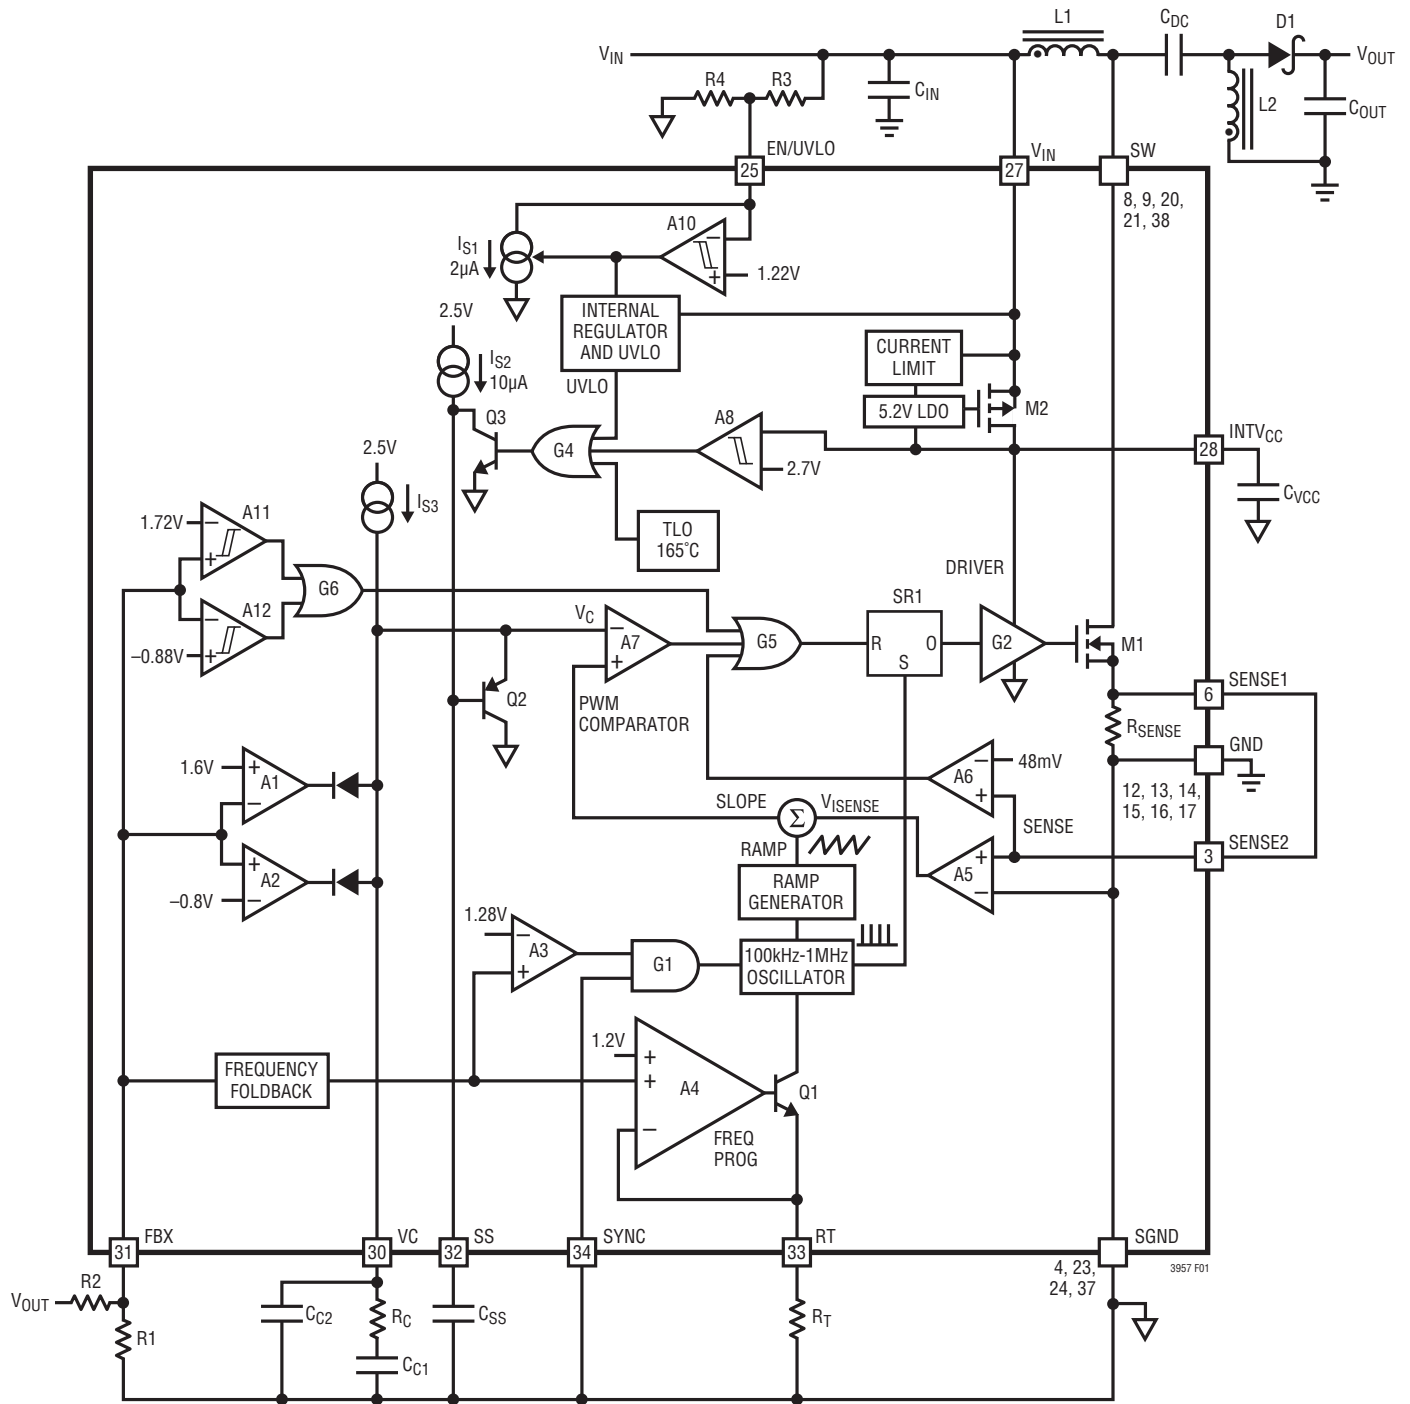

Figure 1. LT3957 Block Diagram Working as a SEPIC Converter
The LT3957 uses a fixed frequency, current mode control scheme to provide excellent line and load regulation. Operation can be best understood by referring to the Block Diagram in Figure 1.
The LT3957 is capable of generating either positive or negative output voltage with a single FBX pin. It can be configured as a boost, flyback or SEPIC converter to generate positive output voltage, or as an inverting converter to generate negative output voltage. When configured as a SEPIC converter, as shown in Figure 1, the FBX pin is pulled up to the internal bias voltage of 1.6V by a voltage divider (R1 and R2) connected from V_{OUT} to SGND. Comparator A2 becomes inactive and comparator A1 performs the inverting amplification from FBX to VC. When the LT3957 is in an inverting configuration, the FBX pin is pulled down to -0.8V by a voltage divider connected from V_{OUT} to SGND. Comparator A1 becomes inactive and comparator A2 performs the noninverting amplification from FBX to VC.
The purpose of this current is to allow the user to program the rising hysteresis. The Block Diagram of the comparator and the external resistors is shown in Figure 1. The typical falling threshold voltage and rising threshold voltage can be calculated by the following equations:
An internal, low dropout (LDO) voltage regulator produces the 5.2V INTV_{CC} supply which powers the gate driver, as shown in Figure 1. The LT3957 contains an undervoltage lockout comparator A8 for the INTV_{CC} supply. The INTV_{CC} undervoltage (UV) threshold is 2.7V (typical), with 0.1V hysteresis, to ensure that the internal MOSFET has sufficient gate drive voltage before turning on. When INTV_{CC} is below the UV threshold, the internal power switch will be turned off and the soft-start operation will be triggered. The logic circuitry within the LT3957 is also powered from the internal INTV_{CC} supply.
If LT3957 operates at a low V_{IN} and high switching frequency, the voltage drop across the drain and the source of the LDO PMOS (M2 in Figure 1) could push INTV_{CC} to be below the UV threshold. To prevent this from happening, the INTV_{CC} pin can be shorted directly to the V_{IN} pin. V_{IN} must not exceed the INTV_{CC} Absolute Maximum Rating (8V). In this condition, the internal LDO will be turned off and the gate driver will be powered directly from V_{IN}. It is recommended that INTV_{CC} pin be shorted to the V_{IN} pin if V_{IN} is lower than 3.5V at 1MHz switching frequency, or V_{IN} is lower than 3.2V at 100kHz switching frequency. With the INTV_{CC} pin shorted to V_{IN}, however, a small current (around 16μA) will load the INTV_{CC} in shutdown mode.
The choice of operating frequency may be determined by on-chip power dissipation (a low switching frequency may be required to ensure IC junction temperature does not exceed 125°C), otherwise it is a trade-off between efficiency and component size. Low frequency operation improves efficiency by reducing gate drive current and MOSFET and diode switching losses. However, lower frequency operation requires a physically larger inductor. Switching frequency also has implications for loop compensation. The LT3957 uses a constant-frequency architecture that can be programmed over a 100kHz to 1000kHz range with a single external resistor from the R_T pin to SGND, as shown in Figure 1. A table for selecting the value of R_T for a given operating frequency is shown in Table 1.
The output voltage V_{OUT} is set by a resistor divider, as shown in Figure 1. The positive and negative V_{OUT} are set by the following equations:
The LT3957 addresses this mechanism with the SS pin. As shown in Figure 1, the SS pin reduces the power MOSFET current by pulling down the VC pin through Q2. In this way the SS allows the output capacitor to charge gradually toward its final value while limiting the start-up peak currents. The typical start-up waveforms are shown in the Typical Performance Characteristics section. The inductor current I_L slewing rate is limited by the soft-start function.
Loop compensation determines the stability and transient performance. The LT3957 uses current mode control to regulate the output which simplifies loop compensation. The optimum values depend on the converter topology, the component values and the operating conditions (including the input voltage, load current, etc.). To compensate the feedback loop of the LT3957, a series resistor-capacitor network is usually connected from the VC pin to SGND. Figure 1 shows the typical VC compensation network. For most applications, the capacitor should be in the range of 470pF to 22nF, and the resistor should be in the range of 5k to 50k. A small capacitor is often connected in parallel with the RC compensation network to attenuate the VC voltage ripple induced from the output voltage ripple through the internal error amplifier. The parallel capacitor usually ranges in value from 10pF to 100pF. A practical approach to design the compensation network is to start with one of the circuits in this data sheet that is similar to your application, and tune the compensation network to optimize the performance. Stability should then be checked across all operating conditions, including load current, input voltage and temperature. Application Note 76 is a good reference on loop compensation.